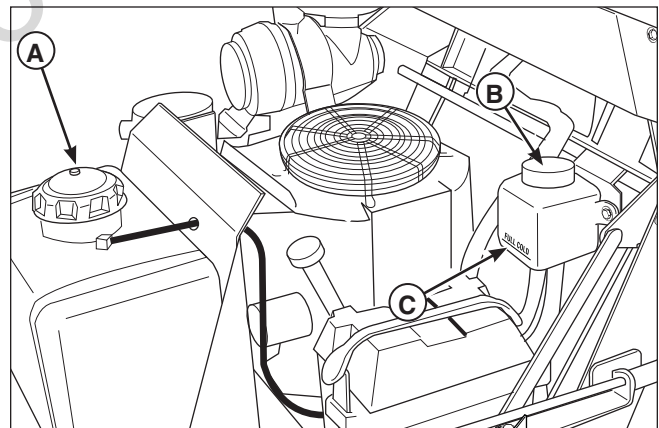

Figure 11. Fuel Tank, Oil Reservoir & Fuel Filter
1. Remove the fuel cap (see A, Figure 11).
1. Observe the oil reservoir (B, Figure 11). The oil level should be at the "FULL" line (C).